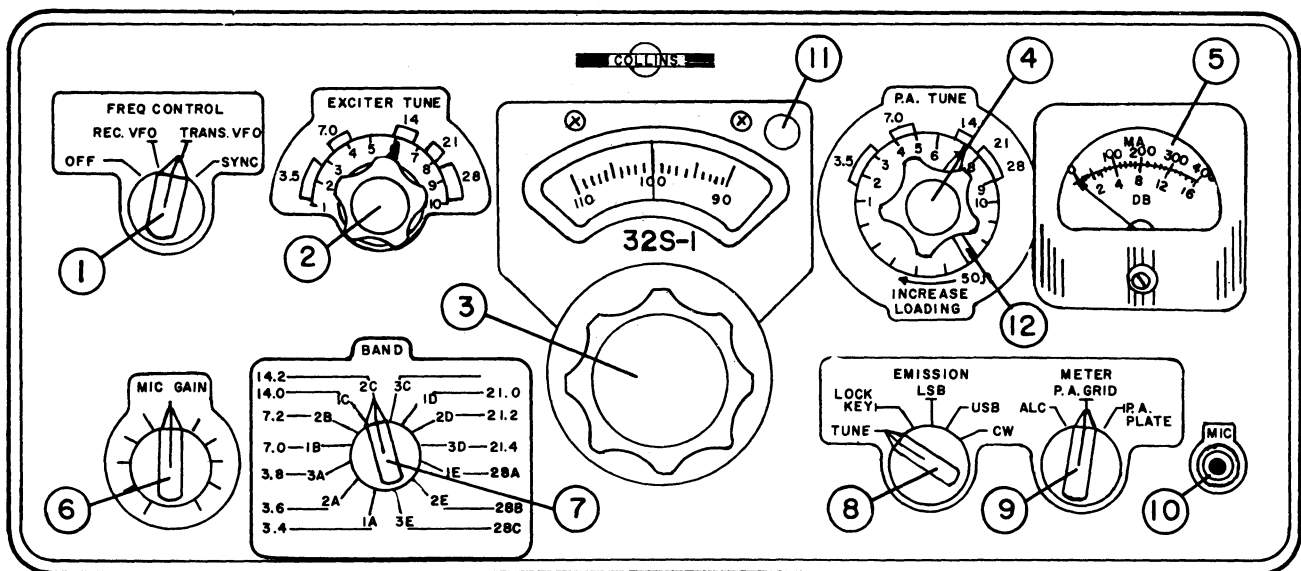

Figure 2-1. Panel Controls
- a. Set controls as shown in figure 2-1.
- b. Set EXCITER TUNING (2) and P.A. TUNING (4) to desired band.
- c. Set tuning dial (3) to desired frequency within band. For example, if BAND switch (7) is set to 14.0, and the desired frequency is 14.195 mc. set dial to 195. To read frequency, add the dial setting to the BAND switch setting. As an example, if the BAND switch is set to 3.8 and the dial is set to 5, the frequency is 3.805 mc. If the BAND switch is set to 3.8 and the dial is set to 170, the frequency is 3.970 mc.
b. Set EMISSION switch (8) to desired sideband (USB or LSB).
c. Set METER switch (9) to ALC.
d. While talking into microphone, advance the MIC GAIN (6) until the meter indicates about 6 db average (lower scale). Peaks may be much higher. If vox circuits transfer between words, increase the release time constant by turning the VOX TIME CONSTANT control (under top cover) clockwise. If less release time is desired, turn the control counterclockwise.
k. If the transmitter is connected with a 75S-1 Receiver, as shown in figure 2-1, and it is desired to zero beat the transmitter to a frequency tuned on the receiver, proceed as in paragraph 2.1, step i.